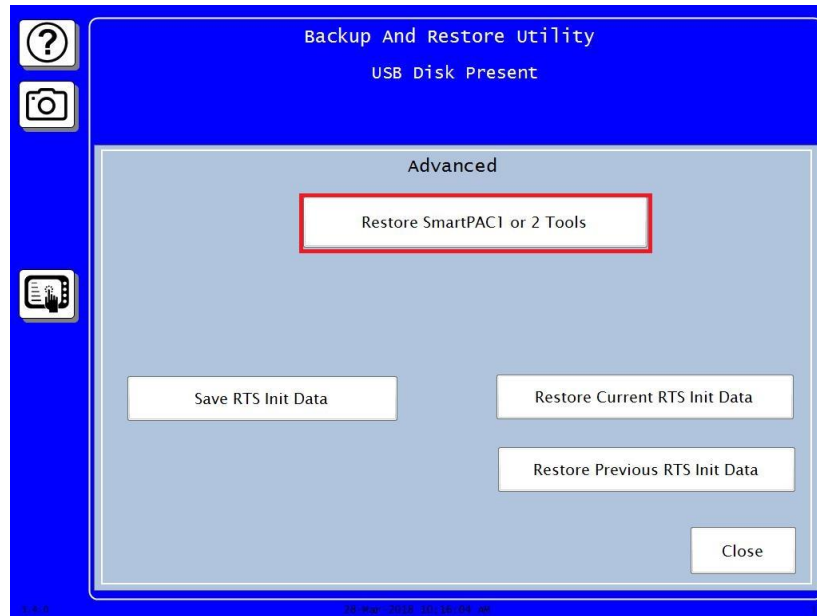

Figure 3. Backup and Restore Utility: Restore SmartPAC 1 or 2 Tools
3. Press **Restore SmartPAC 1 or 2 Tools** (Figure 3).